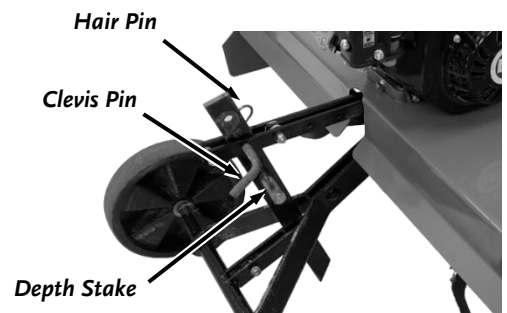

Figure 14
1. To change the till depth, remove the Hair Pin from the Clevis Pin which is connecting the Depth Stake to the Stake Support Bracket (**Figure 14**).